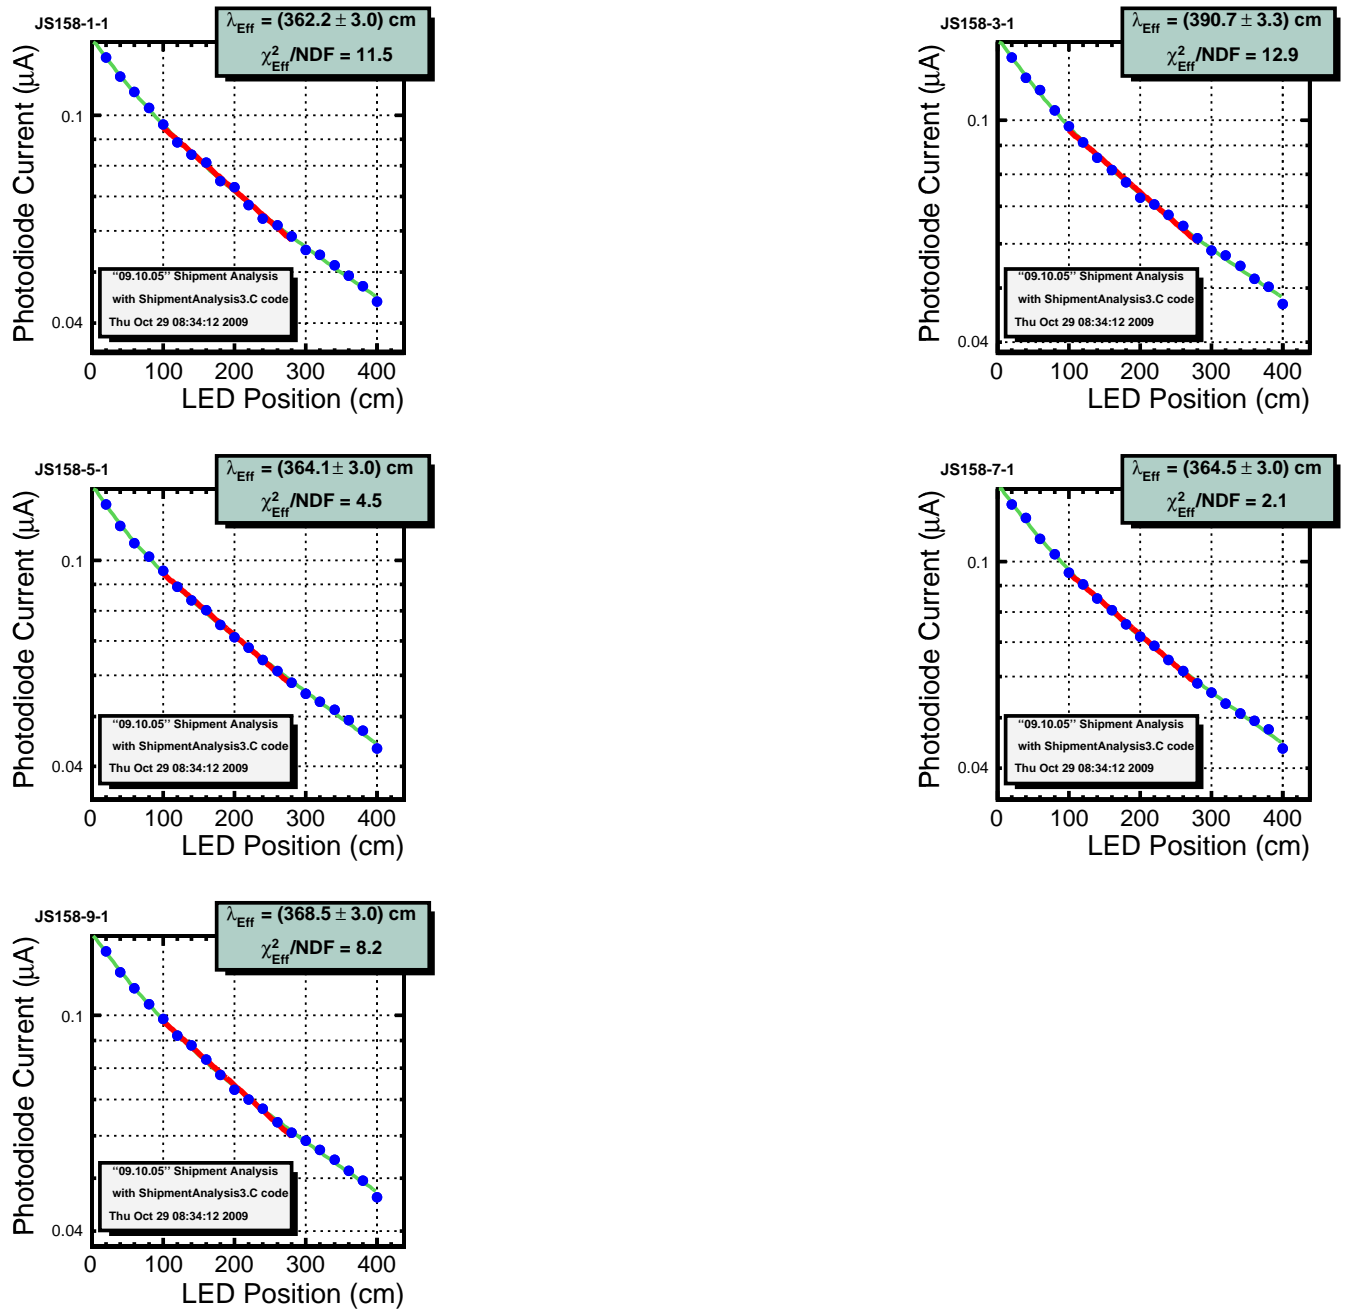

Figure 1: The fibre fits from batch/lot JS158. All fits were successful (statistics panel is coloured steel grey).
- **Quality check:** The data are plotted as blue points. A single exponential fit is done in the 100-280 cm source distance range and displayed as a red curve, and a double-exponential fit over the entire range (10-400cm) and displayed as a green curve. The statistics from both fits are printed at the top right and bottom left corner of each plot, respectively, for every fibre. There are different limits placed on the fit results (see Figs. 1 and 2, as examples):